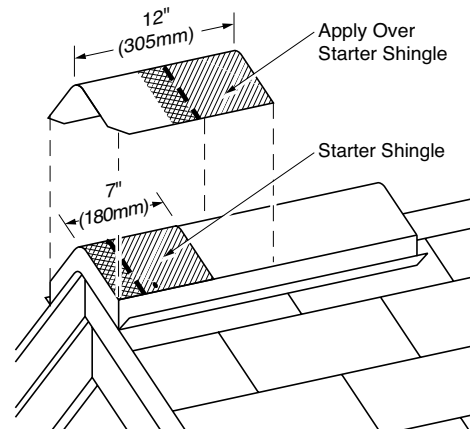

Figure 11-13: Apply a full cap shingle over the starter piece, flush with the bottom and side edges of the starter.
3. Apply a full cap shingle over the starter (Figure 11-13), and place fasteners at $5\frac{5}{8}$ " ($6\frac{1}{4}$ " for metric) up from the exposed bottom edge and 1" in from each side. Nails must not be exposed on the finished roof. All nail heads must be driven straight and must not cut into the shingle surface.